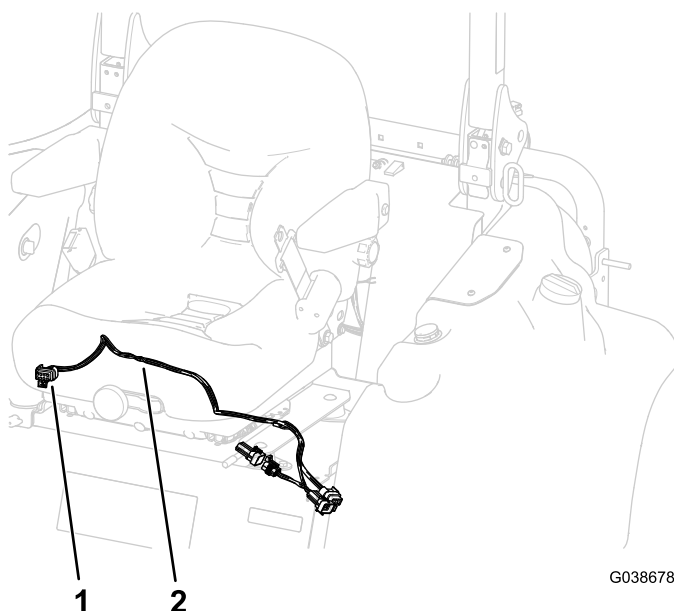

Figure 2
2. Route the joystick wire harness along the existing seat wire harness under the seat plate and through the hole under the seat (Figure 2).
4. Route the wire harness between the seat-mounting bracket, the seat plate, and behind the right, rear rubber isolator on the seat plate (Figure 2).